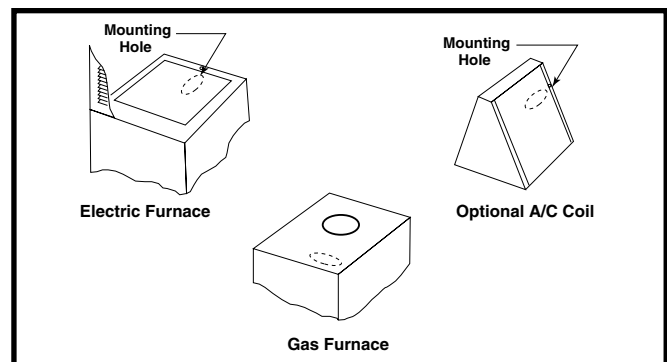

Figure 1. Plastic Inlet Fitting Location
Gas Furnace - Oval knockout located at the top, near the front of the furnace. See Figure 1.
- **Downflow Electric Furnace** - The plastic inlet fitting may be mounted in the rear of the cabinet over the return air filter. When using an optional air conditioning coil, it may be mounted to the front or rear coil end-plate flange using the mounting holes provided. See Figure 1.